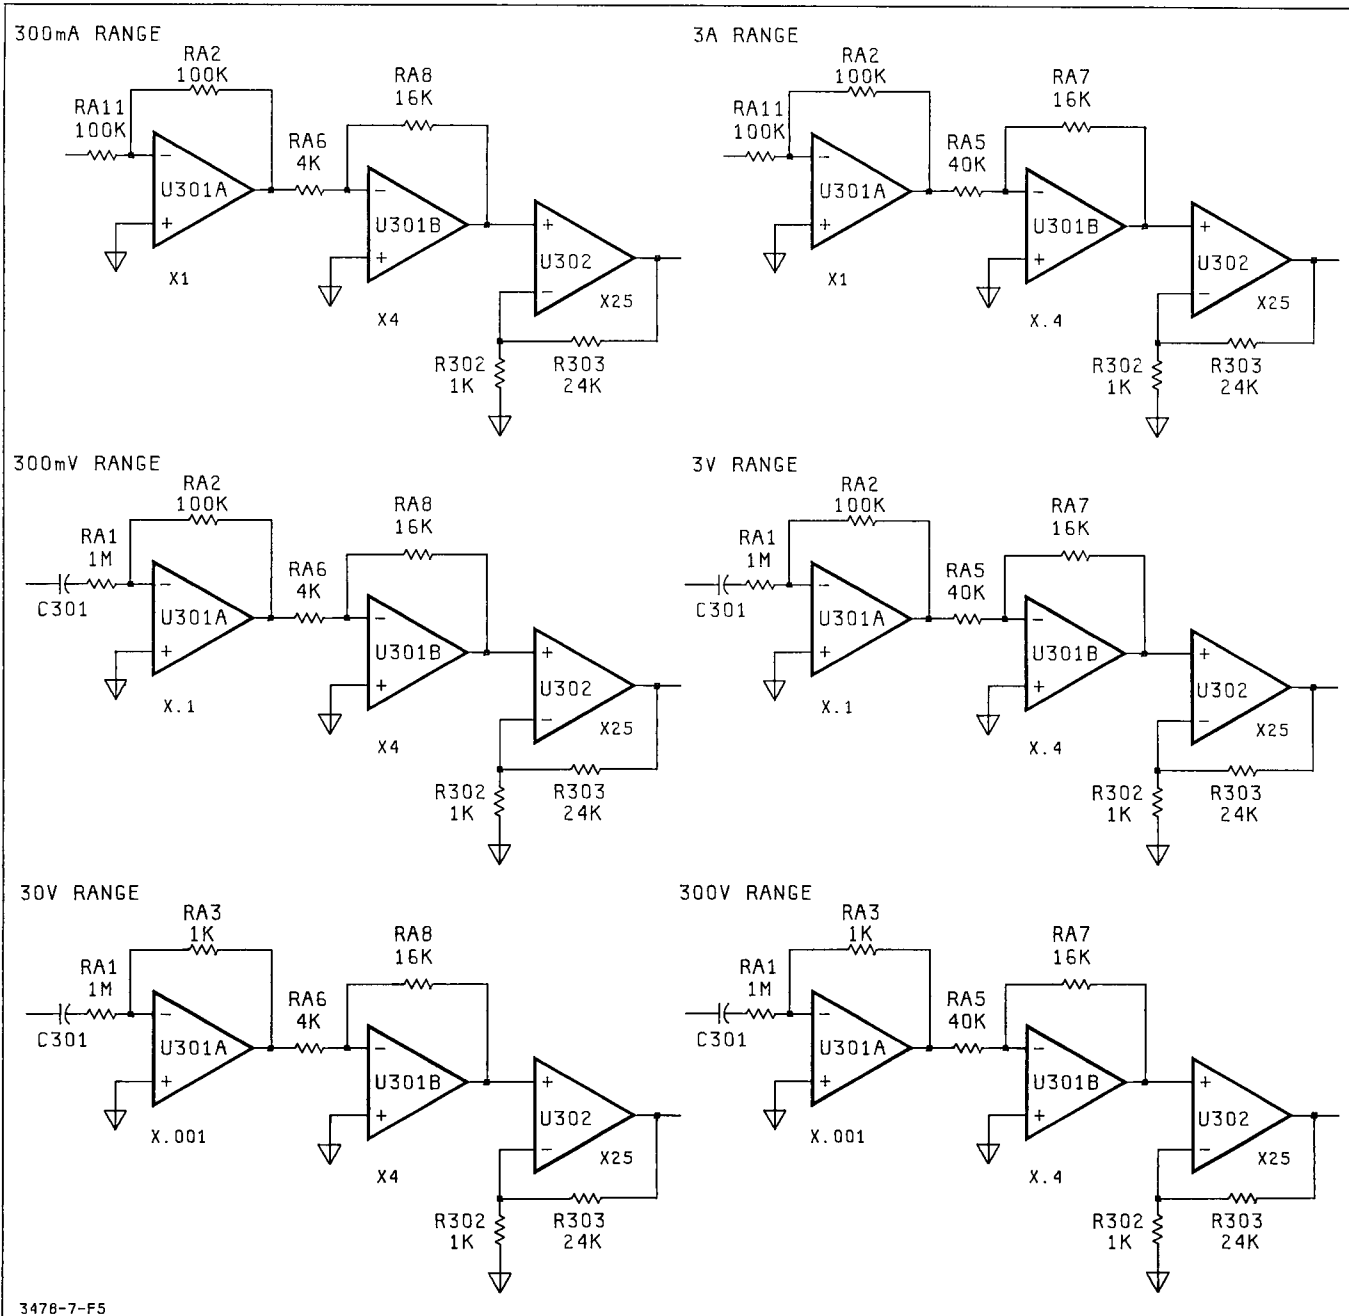

Figure 7-F-5. AC Gain Configurations
7-F-28. Amplifier Stages. Refer to Figure 7-F-5 and Schematic 2 for the following explanation.
a. The first amplifier stage (U301A) is an inverting amplifier with gains of X.001, X.1, or X1 (dependent on the ac range and function selected). The gains are determined by resistors RA1, RA2, RA3, and RA11 (all in U102), as shown in Figure 7-F-5. Capacitor C302 and resistor R305 are used for high frequency compensation (for flat gains at high frequency). The gain determining resistors are selected by MOSFETs S1AC through S6AC, and S11AC (all in U102) which operate as switches. The gains of the amplifier and FETs selected for the ac functions are listed in Table 7-F-2.